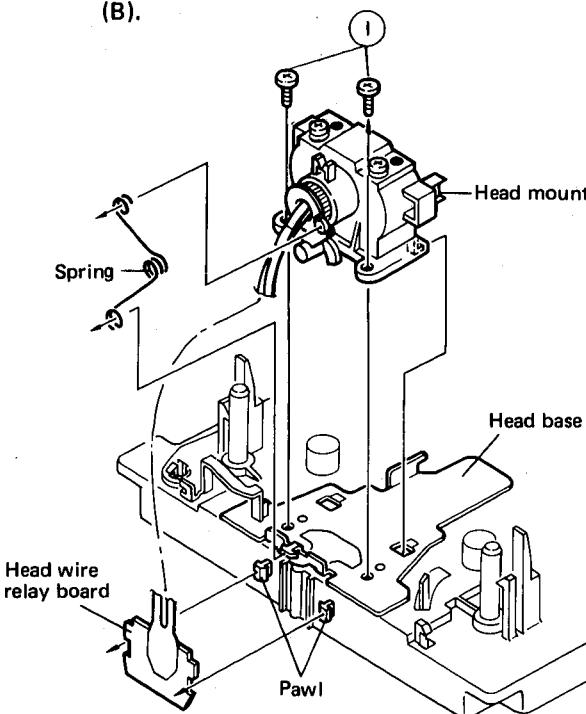
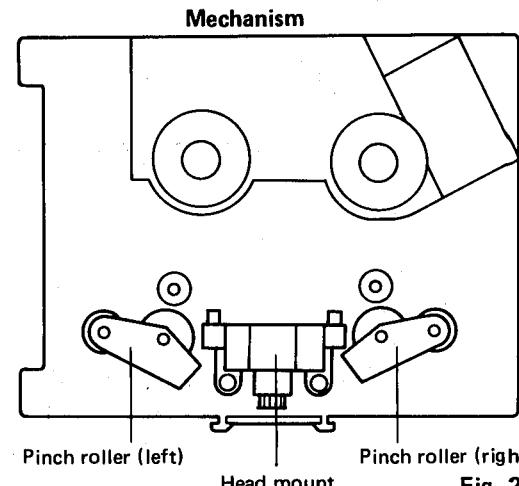
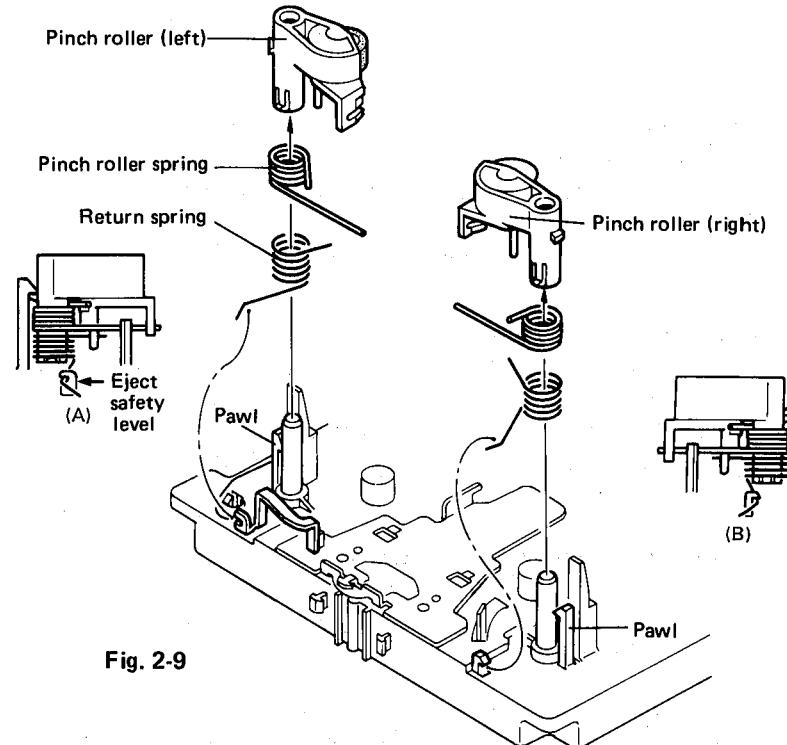

Fig. 2-8
Fig. 2-7
Fig. 2-9
■ Head mount assembly (Fig. 2-7, Fig. 2-8)
- 2) Remove two screws ① retaining the head mount ass'y from the head base.
- 3) Remove the head gear (1) and head spring.
■ Pinch roller assembly (Fig. 2-7, Fig. 2-9)
- 3) For reengaging the spring, refer to the figures (A) and (B).